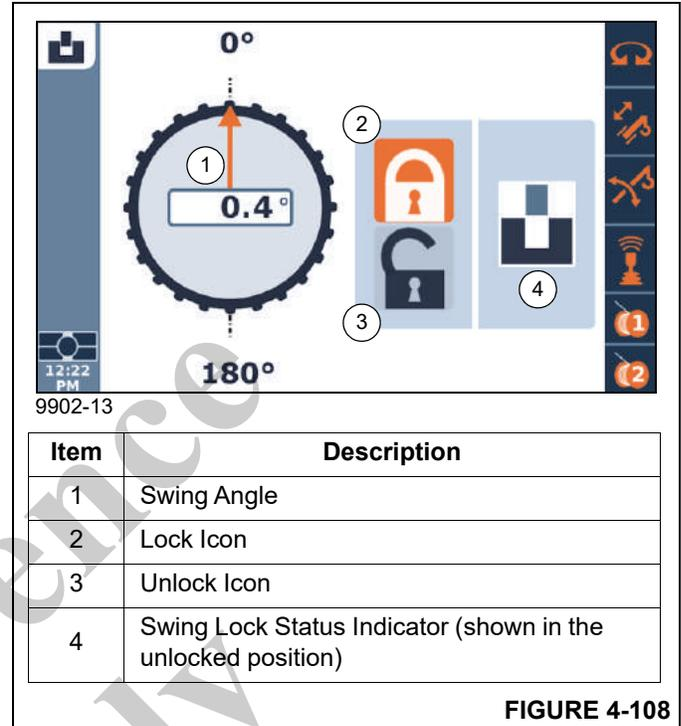

FIGURE 4-108
The 360° Superstructure Lock/Unlock function screen (Figure 4-108) is used to lock the superstructure in position any where throughout its 360° rotation.
The function screen (Figure 4-108) shows the current swing angle (1), the Lock and Unlock Icons for operating the lock function, and the Swing Lock Status Indicator (4) (locked/unlocked).
In Figure 4-108, the Swing Lock Status Indicator (4) shows the swing lock is in the unlocked position.
3. Using the Jog Dial or the Arrow Buttons on the Navigation Control Pad, select the Lock icon (2, Figure 4-108).
2. Using the Jog Dial or the Arrow Buttons on the Navigation Control Pad, select the Unlock icon (3, Figure 4-108).
When the lock is disengaged, the Unlock Status Indicator (4, Figure 4-108) will appear.